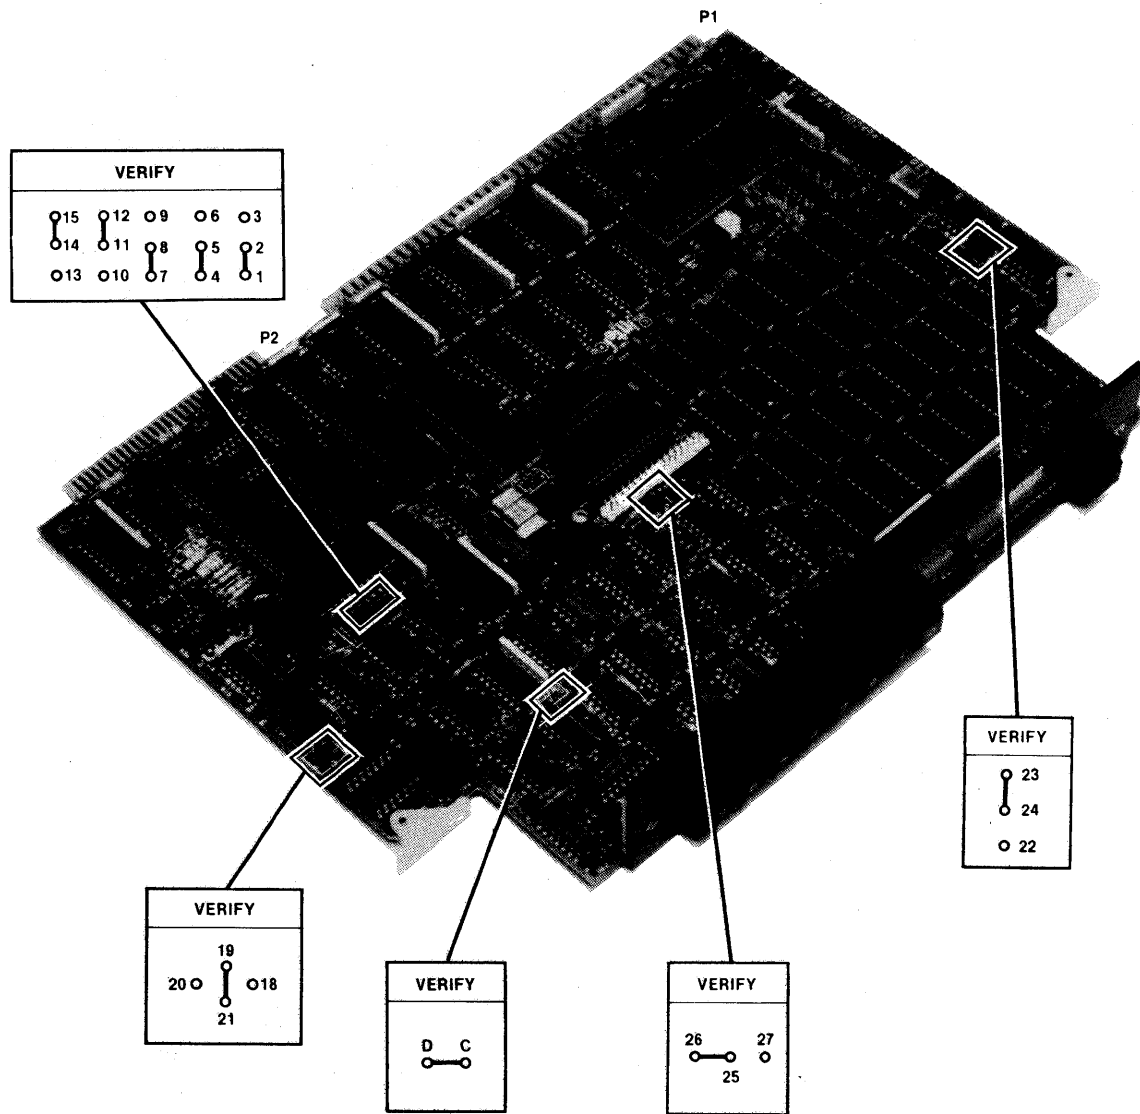

Figure 2-4. Integrated Processor Card (IPC-85)
- g. Disengage and remove IPC-85 board (figure 2-4) from top slot in cardcage by pulling outward on card extractor handles on each side of board. Press firmly inward on all socket-mounted integrated circuits to ensure proper seating. Verify the following plug-on jumper configuration: